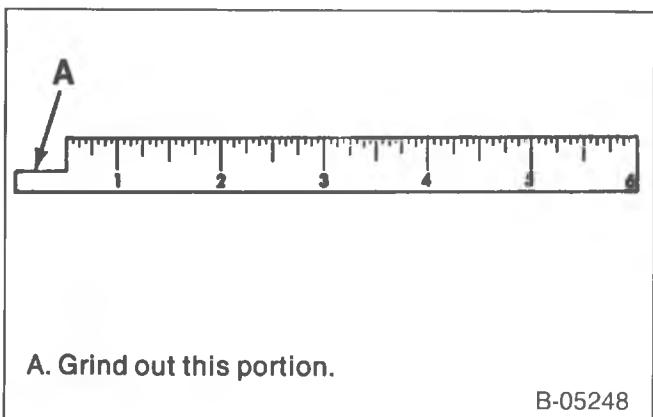

Figure 44—Cutaway Scale
Measure (Figures 44 and 45)
1. Use a narrow, thin scale. A cutaway scale (figure 44) may be helpful.